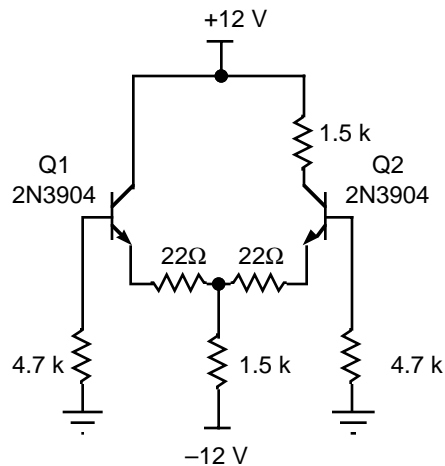

Fig 8.1
a) Calculate the tail current of the circuit in Fig. 8.1 as well as the base currents in each transistor. The  $22\ \Omega$  swamping resistors are used to improve the match between the discrete transistors. Use the  $h_{FE}$ s of your transistors or assume a value of 200 if you haven't kept them. Build the differential amplifier shown in Fig. 8.1 and compare the measured tail and base currents with the calculated values.